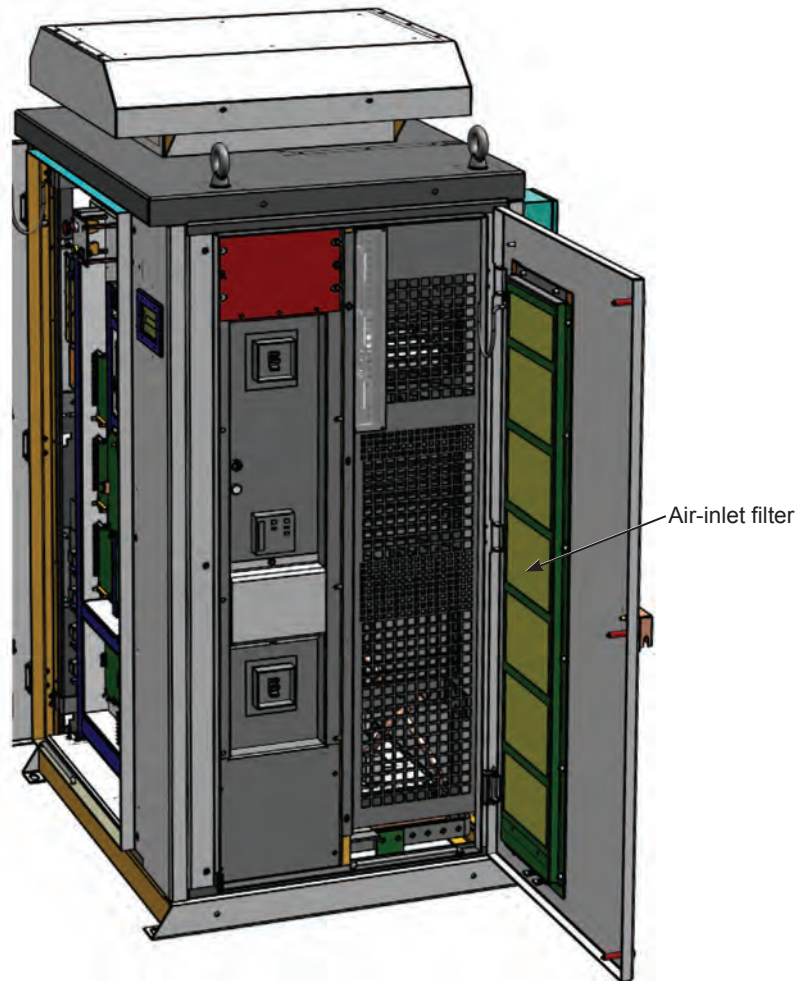

Figure 26. Location of the air-inlet filter in the switchgear bay.
- ☐ Inspect the air-inlet filter (inside of the switchgear bay door) for debris and obstructions that can cause air-flow restrictions. The filter can be replaced by unbolting the mounts with a ½-inch wrench (or socket). See Figure 26 for the location of the air-inlet filter.